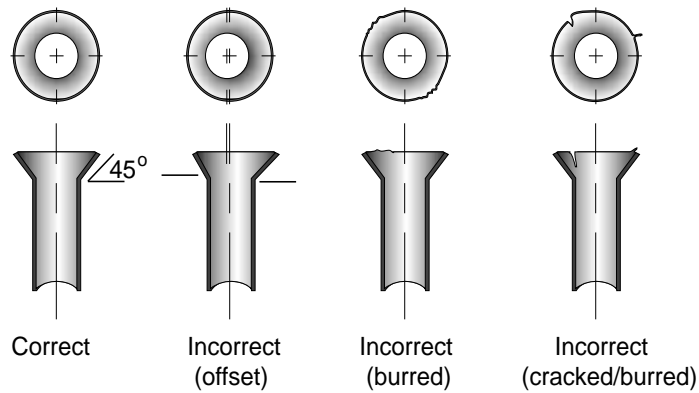

Figure 4-4 Proper and Improper Flares
7. Once the flare is complete, inspect it carefully for any deformity or defect that could cause or lead to a leak. Figure 4-4 shows examples of correct and incorrect flares. The flare should be conical in appearance without burrs or cracks. Look closely to see if hairline cracks are present, usually extending from the outside edge of the flare towards the inside of the pipe. If any of these defects are present, cut the flare off the end of the pipe and begin again. Also, if the tubing was protruding from the end of the vise portion of the tool too far, an overlap or doubling back can occur. Be sure the finished flare has no visible faults, as it is this surface that will be fitted between the male flare receiver and the bonnet nut that forms and keeps the seal. Keeping the flaring cone tip slightly lubricated helps ensure a smooth seating surface.